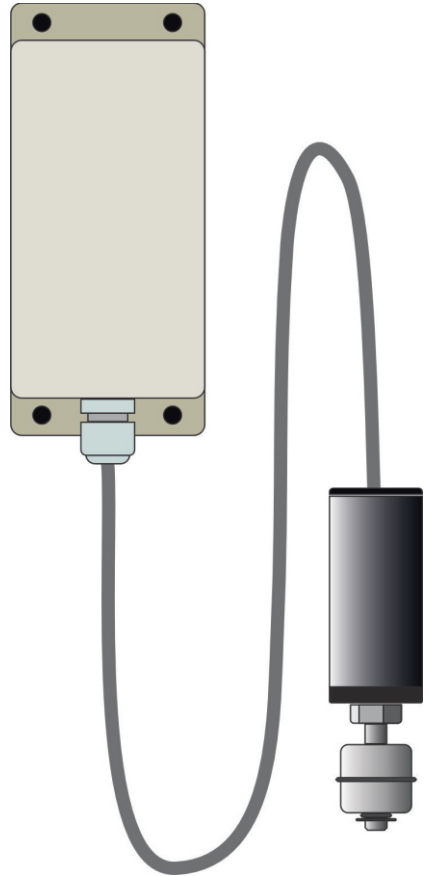

FIGURE 1
A. A transmitter mounted in the tank or pumphouse with a sensor monitoring the liquid level. (Figure 1)
The package includes a transmitter unit with a level sensor (Fig 1) and a receiver unit (Fig 2) with a DC adapter. Each receiver unit only reacts on alarms from its own transmitter unit.